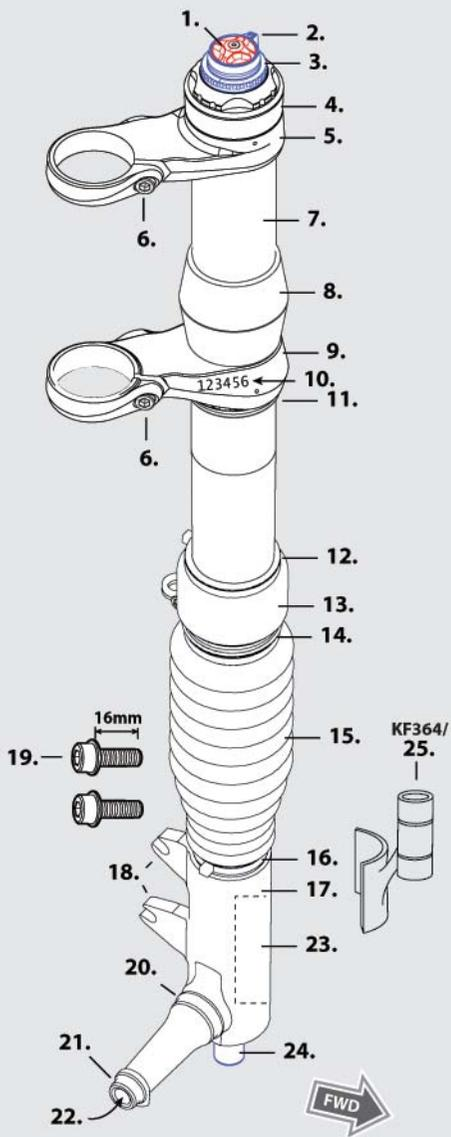

Figure 3.
**USE ONLY 16mm (Cannondale kit # LEFTYBOLTS/).** Longer bolts can result in contact with the brake rotor causing severe damage. Check clearance between the bolt tips and rotor after remounting the caliper. See Figure 3 item (19).